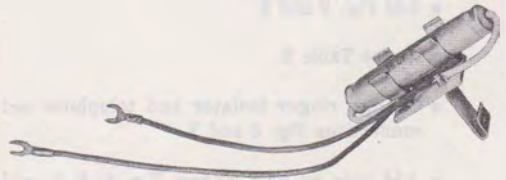

Fig. 1—D-180327 Kit of Parts
**4.03** The electromagnet associated with 10-cent operation is connected in series with the line. In order to minimize the effect of the electromagnet on transmission, a 452A or 452B 4-uf capacitor is connected in parallel with it. In areas of low-frequency inductive interference it may be necessary to increase the size of this capacitor to keep the noise pickup within acceptable limits. A D-180327 Kit of Parts (Fig. 1) is available for this purpose and is intended for use in all 200-type coin collectors using a 425- or 4010-type network. It replaces the 452A or 452B capacitor.